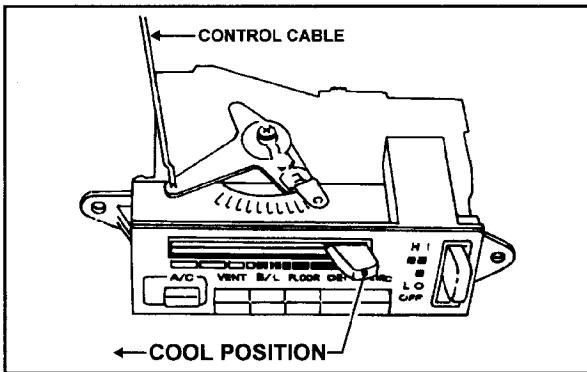

Figure 71: Max Cool Position of Control Panel
- 3) Move the temperature control lever on the control panel to the maximum cool position (all the way to the left). (Fig. 71)
- 5) While holding the cam lever in the proper position, recheck that the temperature control lever on the control panel is in the maximum cool position. (Fig. 71)